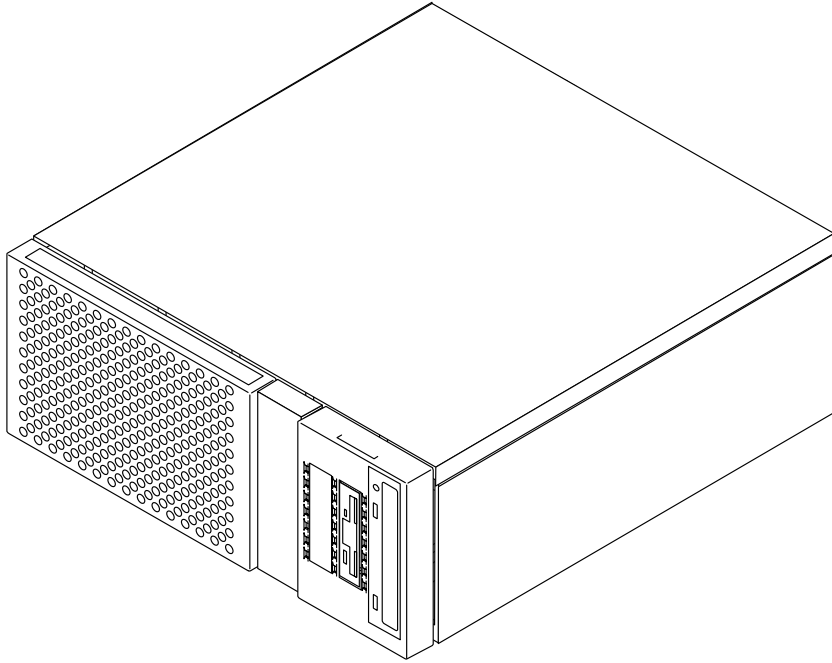

FIGURE 9 Ultra 30/60 System Placed Horizontally
2. Lay the system on its side (FIGURE 9).